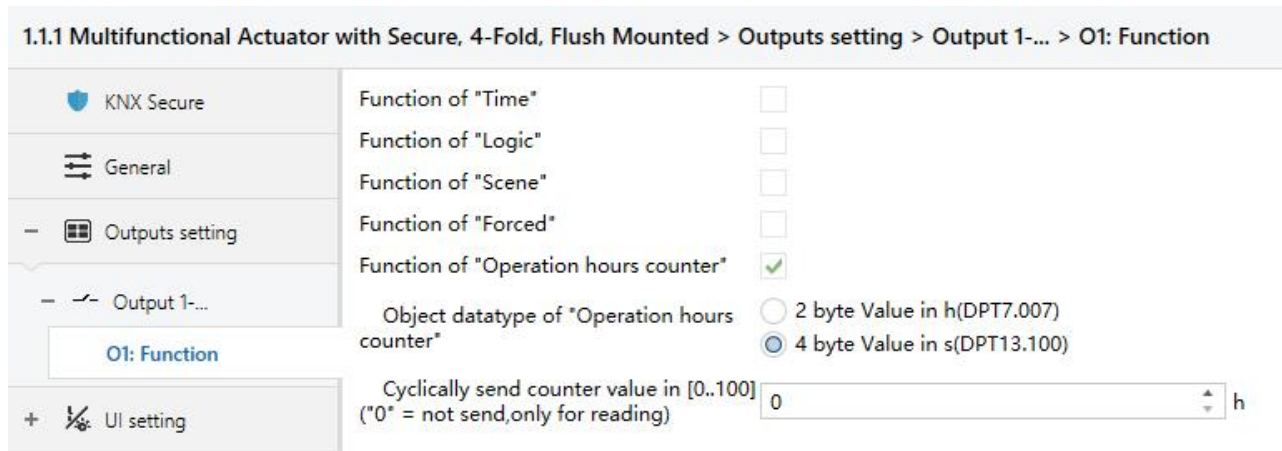

Fig. 4.4.6 Parameter window "Output X: Operation hours counter"
The parameter window "Output X: Operation hours counter" setting interface in Fig. 4.4.6 will be visible with "enable" in the parameter "Function of "Operation hours counter"" in Fig. 4.4.1(2) The function is use for counting the time of relay on.